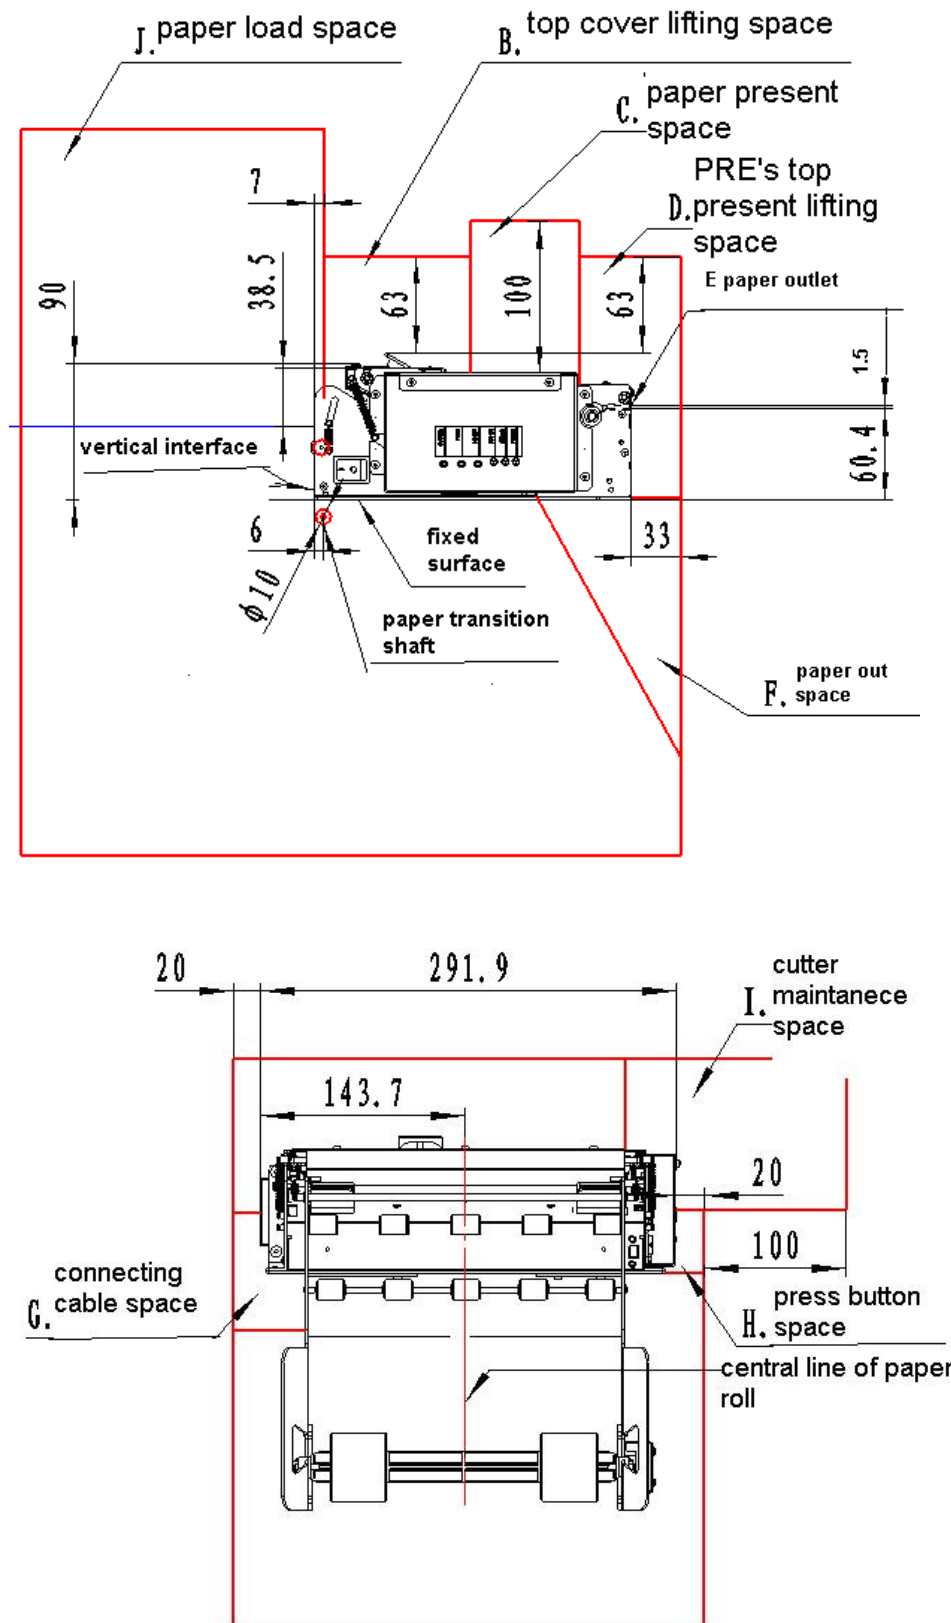

Figure 4.7.1 Vertical structure
- while operating and doing routine maintenance, we suggest reserving the space as follows (figure 4.7.1, 4.7.2, 4.7.3)